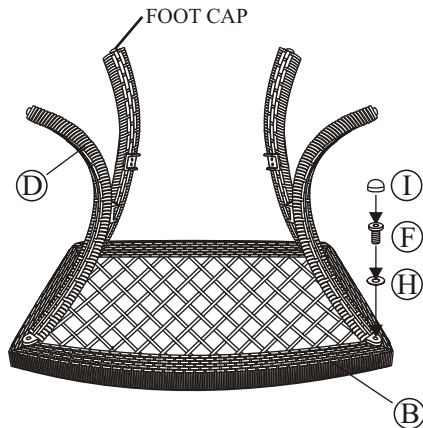

Figure 1
Step 2: Place the table rim (without glass) upside down on a flat, non-abrasive surface. Attach a table leg to the rim by using a 1/4"x20 mm bolt and a washer as shown in **Figure 1**. Guide the bolt through the hole in the table leg, into the pre-drilled hole in the table rim. **Hand tighten bolt 3-4 revolutions only. Do not tighten completely.** Some adjustments may be necessary to ensure proper alignment of the table legs. Repeat for the other three table legs.